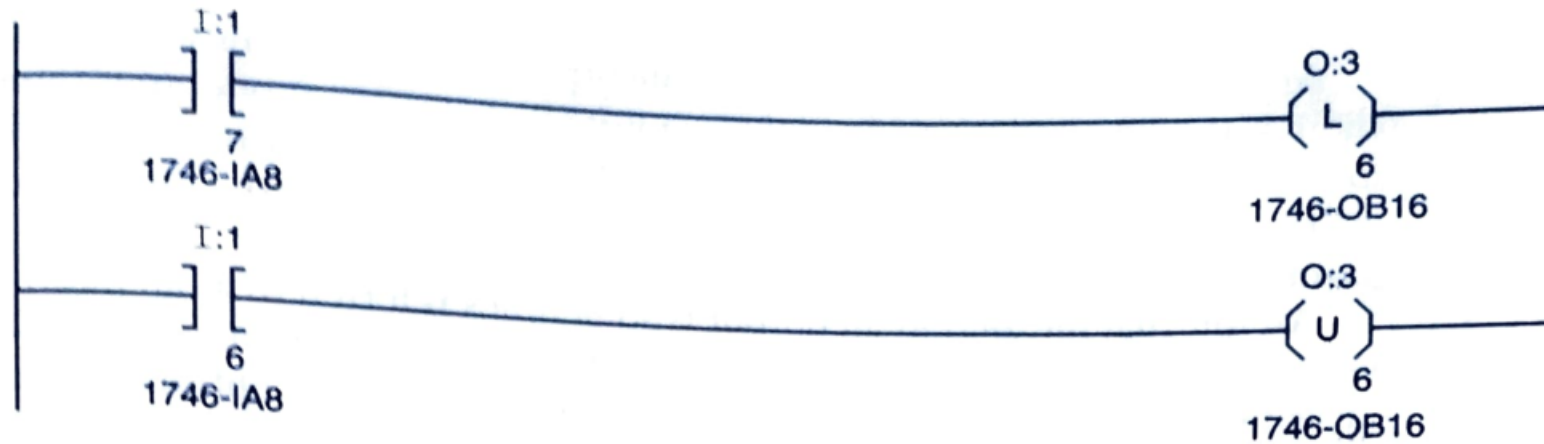

Figure 13-16 Latching instruction programmed before the unlatch instruction.
- Figure 13-16 illustrates a latching instruction programmed before the unlatch instruction.